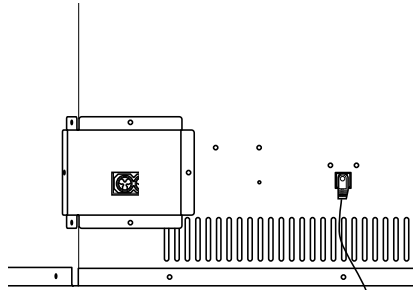
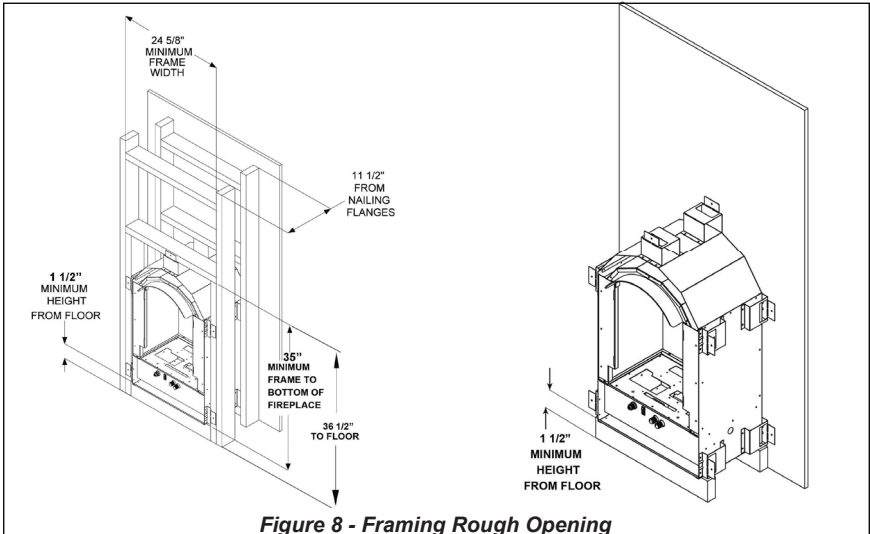
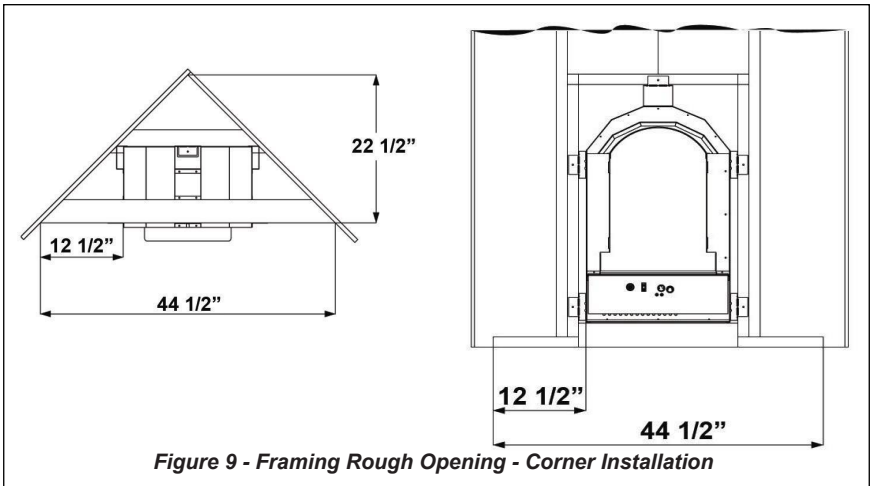

Figure 4 - Connecting to Power Supply
Figure 8 - Framing Rough Opening
Figure 9 - Framing Rough Opening - Corner Installation
NOTICE: Surface temperatures of adjacent walls and mantels become hot during operation. Walls and mantels above the fireplace may become hot to the touch. If installed properly, these temperatures meet the requirement of the national product standard. Follow all minimum clearances shown in this manual (see Figure 4, page 9 and Figure 8).
1. Frame in rough opening. Use dimensions shown in Figure 8 (page 11) for the rough opening. If installing in a corner, use dimensions shown in Figure 9 (page 11) for the rough opening.